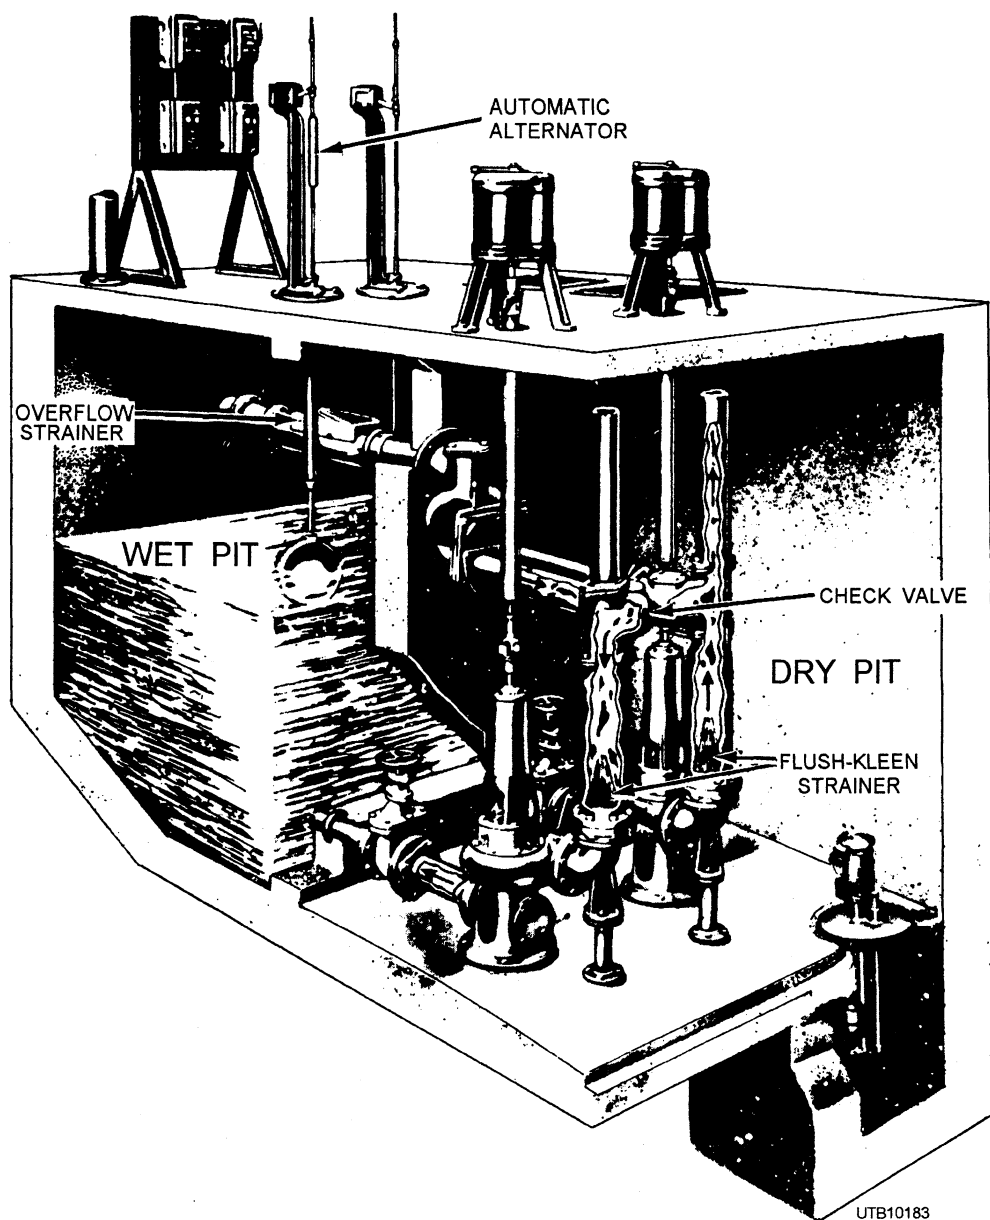

Figure 6-18.—Sewage ejector centrifugal pumps.
- To pump sewage. Sewage ejector pumps (fig. 6-18) for dry-pit installations have a connection on the suction end of the pump that is piped to a separate wet pit.